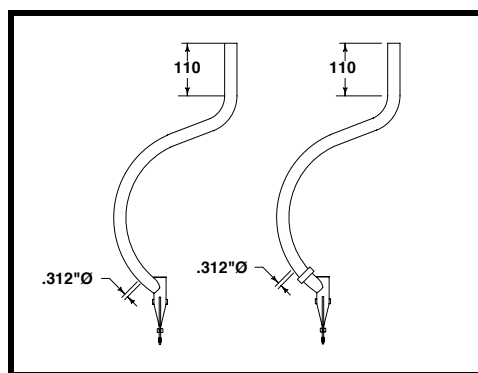

Figure 31
- ❑ Cut off the top of the control sticks to match the rubber grips supplied. See Figure 31. The bottom of the rubber grips should be at the top of the bend. (At the time that the control sticks were designed, we had not yet selected the grips, therefore the extra length.) Do not install the rubber grips on the sticks at this time since they must be loose at the time that the microphone push-to-talk wiring is installed, and the grips are very difficult to remove once installed.
- ❑ Drill 5/16"Ø holes in the bottom forward face of the control sticks and install the MS35489-4 grommets for the wiring in these holes. These grommets are supplied as part of the electrical kit. See Figure 31.